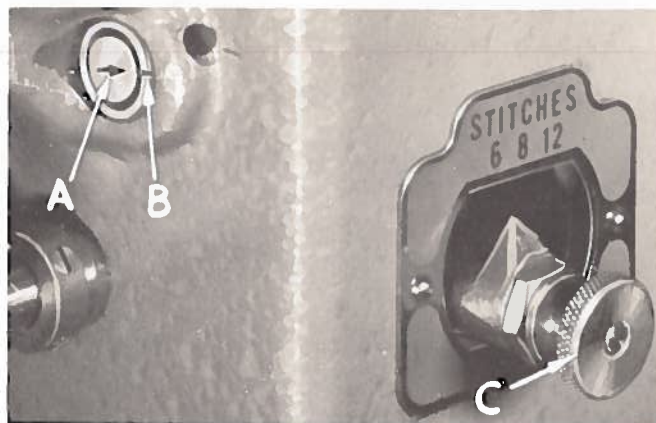

Fig. 19
either 6, 8, or 12, operate machine until red arrow on cam shaft (A, Fig. 19) coincides with red line (B) on bushing. Pull out stitch selector knob (C), and move sideways until indicator point lines up with desired number of stitches, and release selector knob.